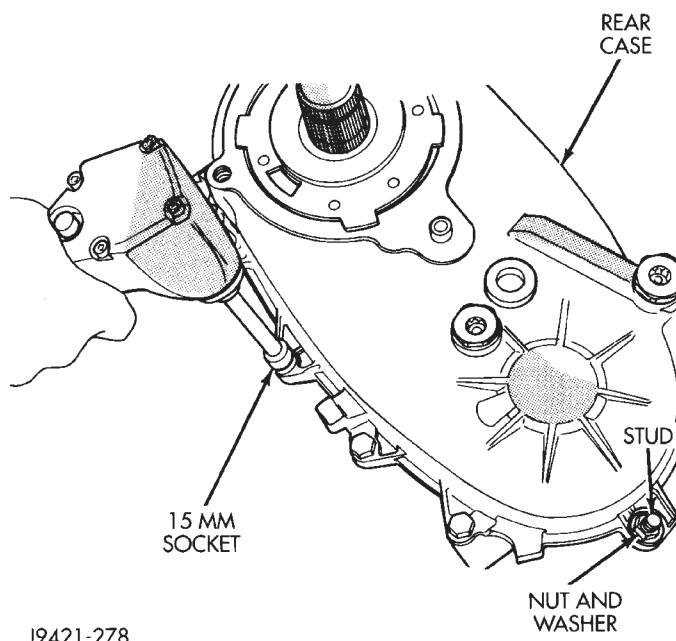
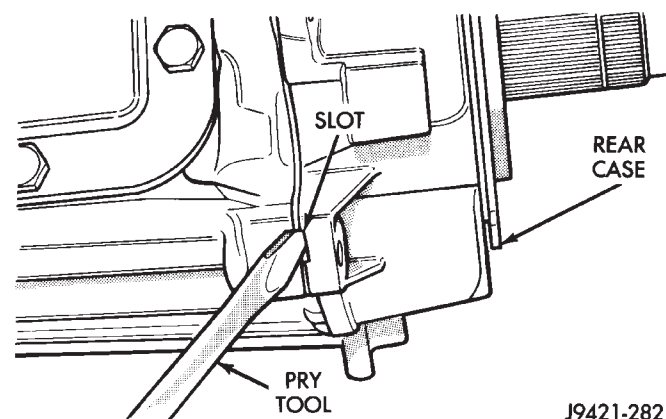

Fig. 24 Removing Case Attaching Bolts
Fig. 25 Loosening Rear Case (Breaking Sealer Bead)
(1) Remove output bearing retaining ring with heavy duty snap ring pliers.
(2) Remove output shaft bearing.
(3) Note position of bolts that attach rear case to front case (Fig. 24). Some bolts/studs at ends of case require flat washers. Mark position of these bolts with paint or scribe.
(4) Remove rear case-to-front case bolts.
(5) Loosen rear case with pry tool to break sealer bead. Insert tool in slot at each end of case (Fig. 25).